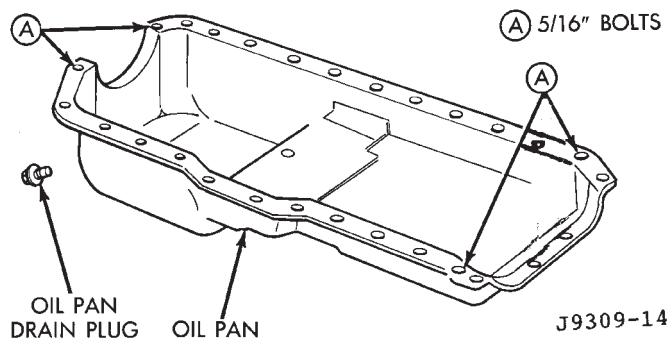

Fig. 3 Position of 5/16 inch Oil Pan Bolts
(3) Slide the one-piece gasket over the dowels and onto the block and timing case cover.
(4) Position the oil pan over the dowels and onto the gasket. If equipped with an oil level sensor, take care not to damage the sensor.
(5) Install the 1/4 inch oil pan bolts. Tighten these bolts to 13 N•m (114 in. lbs.) torque. Install the 5/16 inch oil pan bolts (Fig. 3). Tighten these bolts to 18 N•m (156 in. lbs.) torque.
(6) Remove the dowels. Install the remaining 1/4 inch oil pan bolts. Tighten these bolts to 13 N•m (114 in. lbs.) torque.
(7) Lower the engine until it is properly located on the engine mounts.
(8) Install the through bolts and tighten the nuts to 65 N•m (48 ft. lbs.) torque.
(9) Lower the jack stand and remove the piece of wood.
(10) If equipped with an oil level sensor, connect the sensor.
(11) Install the engine flywheel/transmission torque converter housing access cover.
(12) Install the engine starter motor.
(13) Connect the exhaust pipe to the hanger and to the engine exhaust manifold.
(14) Install the oil pan drain plug (Fig. 3). Tighten the plug to 41 N•m (30 ft. lbs.) torque.
(15) Lower the vehicle.
(16) Connect negative cable to battery.
(17) Fill the oil pan with engine oil to the specified level.